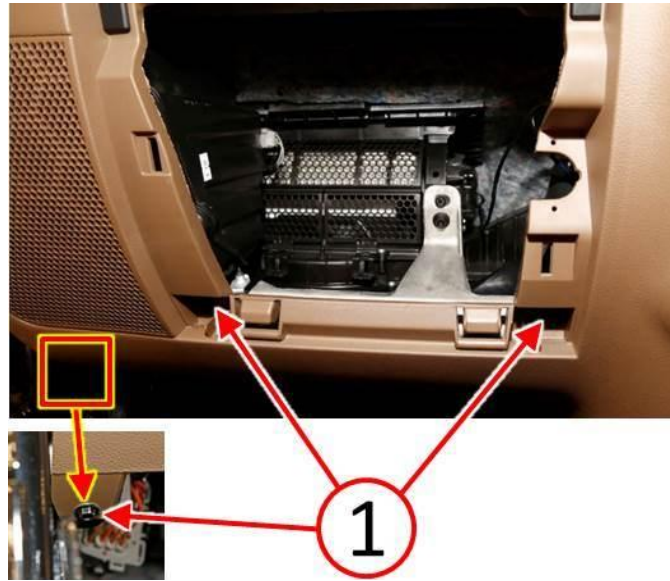

Fig. 5 Instrument Panel Left Side Fasteners
14. Remove the three fasteners (1) attaching the lower left side of the instrument panel cover (Fig. 5).